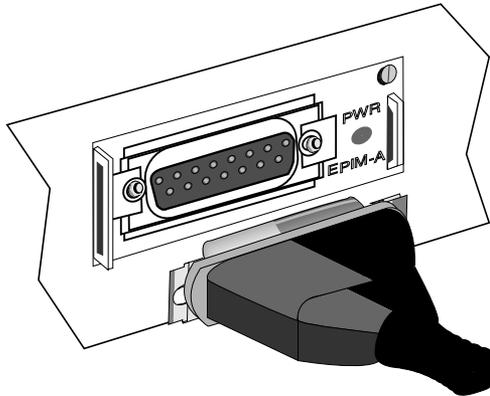

Figure 3-4. The EPIM-A
3. Connect the AUI cable to the AUI port located on the EPIM-A. See Figure 3-4.